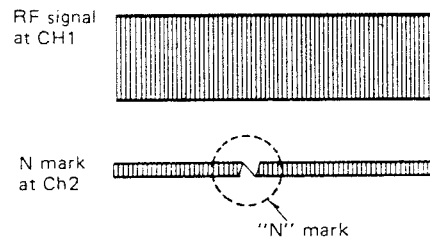

Fig: 4-14. RF signal and N mark
- ③/RF test pin of SL-P8.
4. If RF signal and "N" mark are present no adjustment is required as shown in figure 4-14. If RF signal and "N" mark are not present, perform step 5.